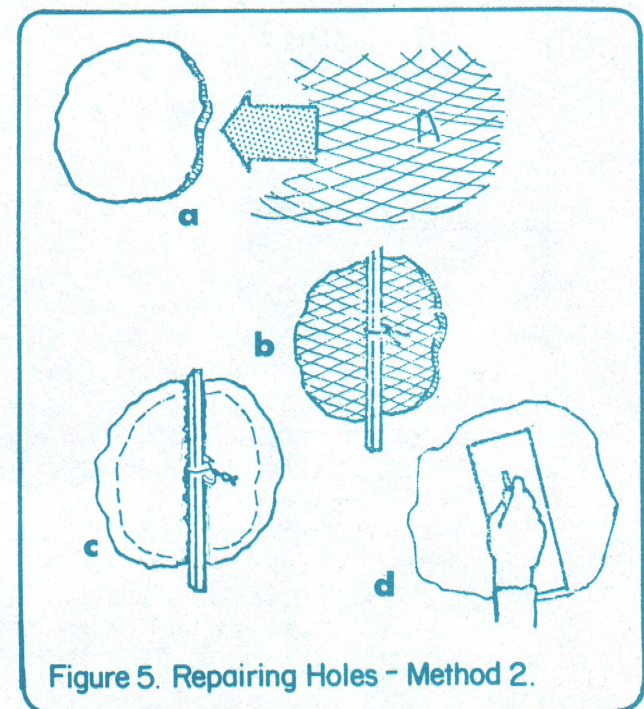

Figure 5. Repairing Holes - Method 2.
(2) The second method, Figure 5.